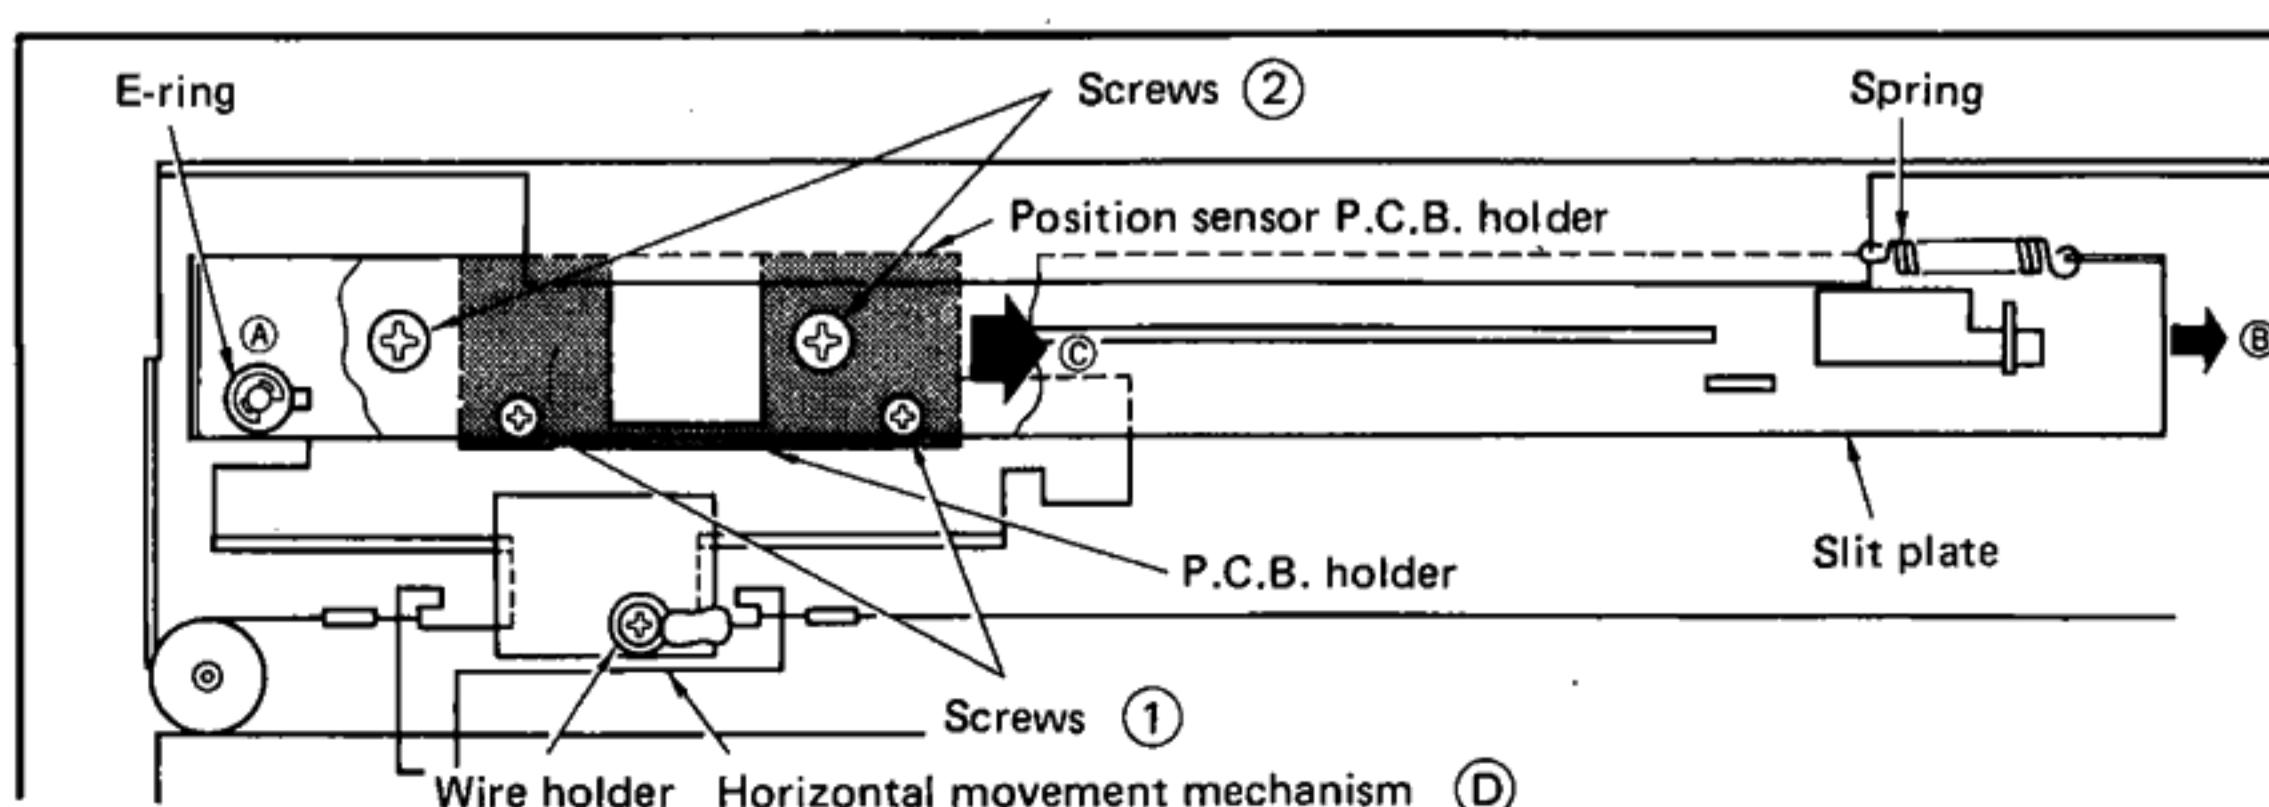

Fig. 2
- 1) Detach the E-ring and coil spring. Remove the slit plate by lifting point **A** slightly upwards and shifting the plate in the direction of arrow **B** (Shown in Fig. 2).
- 3) Remove the two screws **①** securing the light receiving P.C.B. that functions to sense the tonearm position. Take off the P.C.B. holder, moving it in the direction of arrow **C**.
- 6) After removing the two screws **②**, the tonearm ass'y can be removed by moving it upwards.